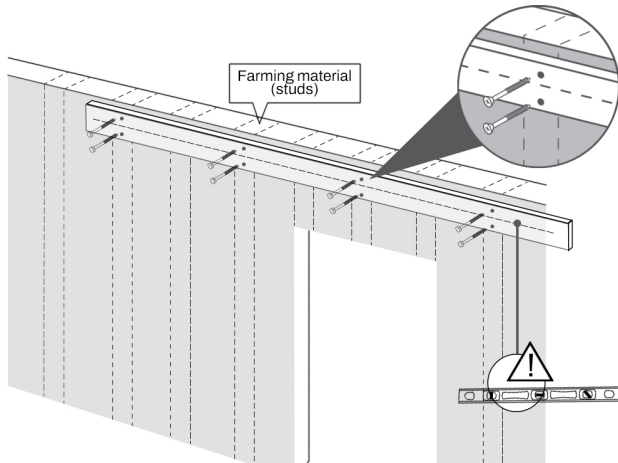

FIGURE 13
- Using a 1/8" (3.2mm) drill bit, predrill holes through the mounting board and into the studs. Ensure these holes do not interfere with the track mounting holes (see FIGURE 13). Secure the mounting board to the studs with #10 x 2-1/2" (64mm) screws, using two screws per stud location.